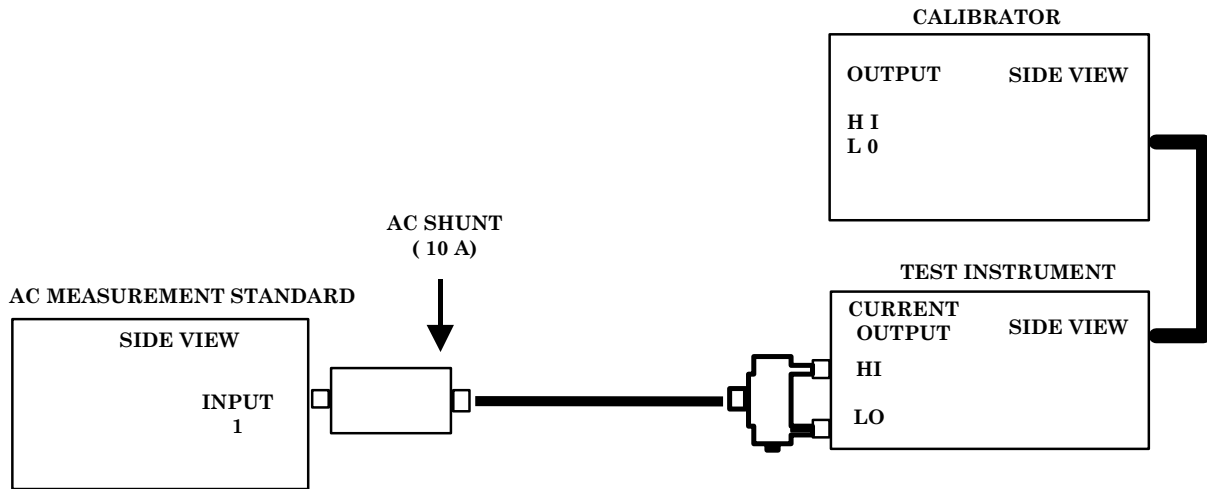

Figure 21. Frequency response.
(1) Connect equipment as shown in figure 21. Press **INPUT 1** pushbutton on ac measurement standard.